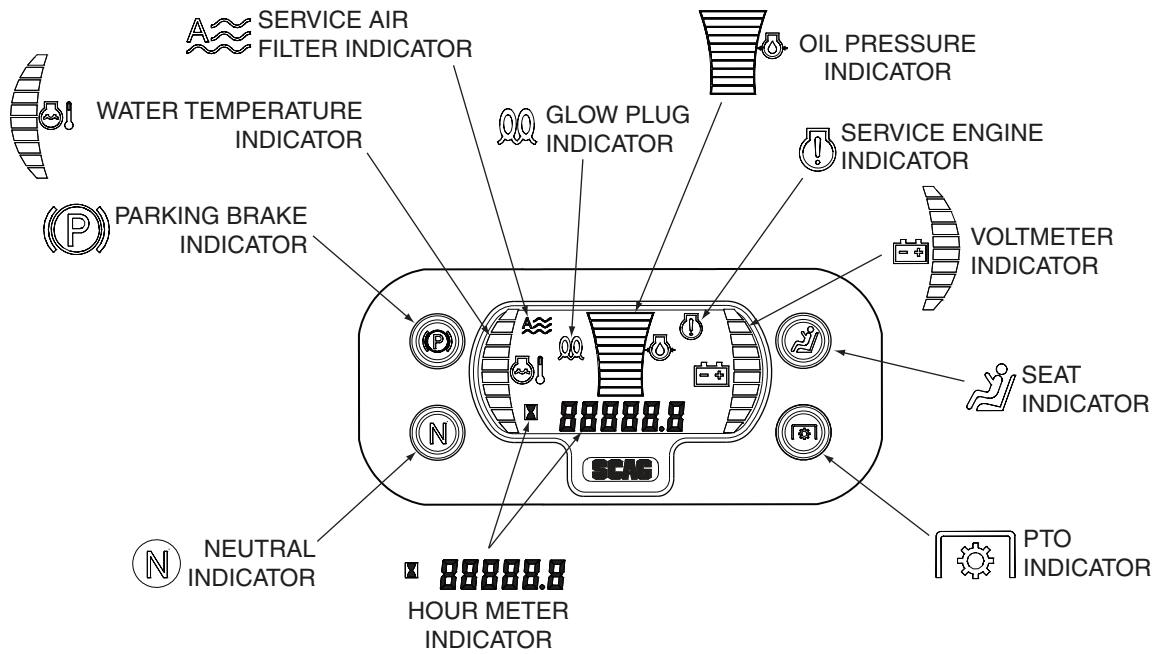

Figure 4-1. Tiger Eye Advanced Monitoring System
1. **Service Air Filter Indicator (Figure 4-1). Optional Accessory.** Indicates the condition of the engine air filter. Icon will display when it is time to change the air filter.
2. **Glow Plug Indicator (Figure 4-1). Used on Diesel Powered Units Only.** Indicator turns on when the key switch is turned to the PREHEAT position. Glow plugs must be preheated for 5 to 10 seconds before starting the engine.
3. **Oil Pressure Indicator (Figure 4-1). Used on Diesel Powered Units Only.** Indicates engine oil pressure. Reference the engine operator's manual for further information.
4. **Service Engine Indicator (Figure 4-1).** Indicates the maintenance reminder for the engine oil change. Has preset maintenance reminder and will start flashing scheduled maintenance 2 hours before preset time and continue flashing until 2 hours after. Automatically resets.
5. **Voltmeter Indicator (Figure 4-1).** Indicates the condition of the charging system. When the engine is running, in normal operating conditions, the bar graph should be in the 12 to 14 volt range.
6. **Seat Indicator (Figure 4-1).** Light will illuminate when the operator is in the seat engaging the seat switch.
7. **PTO Indicator (Figure 4-1).** Light will illuminate when the PTO (mower deck) switch is in the OFF position.
8. **Hourmeter Indicator (Figure 4-1).** Indicates the number of hours the engine has been operated. It only operates when the engine is running. Will start flashing with the Service Engine Indicator at scheduled maintenance 2 hours before preset time and continue flashing until 2 hours after. Automatically resets.
9. **Neutral Indicator (Figure 4-1).** Light will illuminate when the steering control levers are in the neutral lock position.
10. **Park Brake Indicator (Figure 4-1).** Light will illuminate when the park brake is in the engaged (ON) position.
11. **Water Temperature Indicator (Figure 4-1). Used on Liquid Cooled Models Only.** Indicates the operating temperature of the engine. If the engine temperature exceeds the maximum preset value, the indicator will flash and the Park Brake, PTO, Seat and Neutral indicator lights will flash in an alternating pattern.
13. **Deck Release Lever (Figure 4-1).** Used to lock the cutter deck in the transport position. Push the foot pedal forward and pull back on the release lever to release the cutter deck for normal mowing.